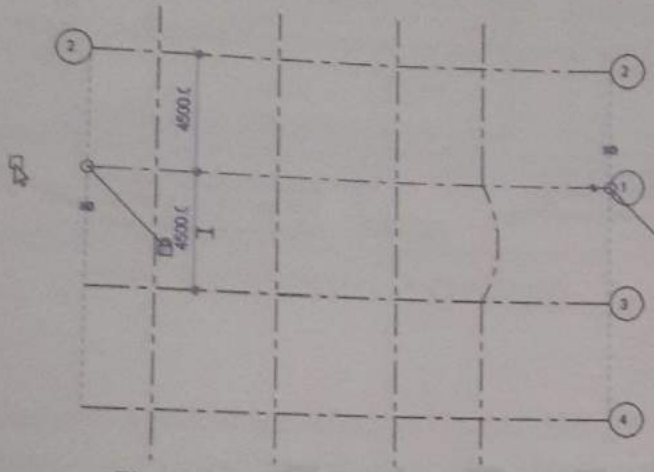

Figure 30: Hiding Grid Bubbles
- Revit Architecture displays a check box near the grid bubble. Clear the check box to hide the bubble, or select it to show the bubble (Figure 30).